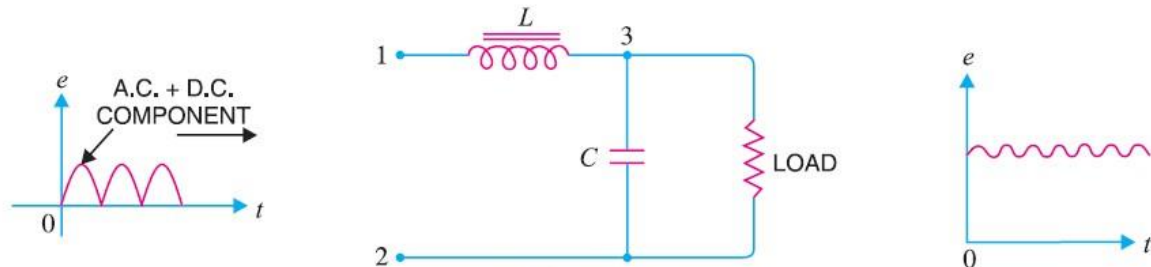

Fig. 6.42
**(ii) Choke input filter:** Fig. 6.42 shows a typical choke input filter circuit. It consists of a \*choke  $L$  connected in series with the rectifier output and a filter capacitor  $C$  across the load. Only a single filter section is shown, but several identical sections are often used to reduce the pulsations as effectively as possible.